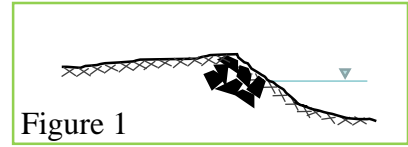
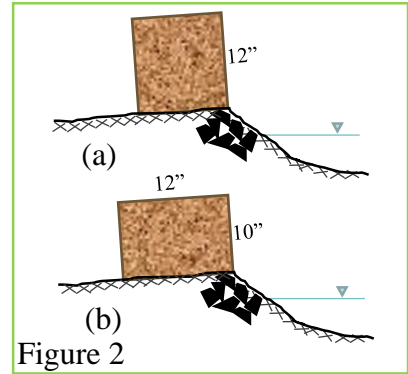

Figure 1
Figure 2
1. Clean and grade the base of the eroded streambank or shoreline. If necessary, strengthen the toe and the foundation (Figure 1). Place the BioD-SuperLog™ unit on a level surface (a slight incline as shown is recommended), keeping the end with the pouch towards the direction of extension of the BioD-SuperLog™. It can be installed to give two heights, 12" or 10" (See Figure 2). The preferred height is 12" (Figure 2a).